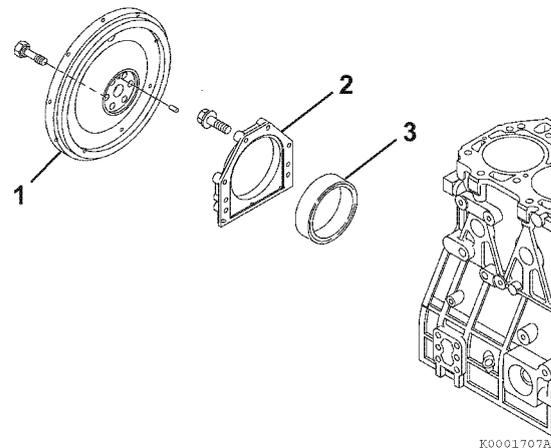

Figure 6-61
1. Remove the flywheel (1, **Figure 6-61**) from the crankshaft.
2. Remove the bolts from the rear oil seal assembly (2, 3, **Figure 6-61**). Remove the assembly from the engine.